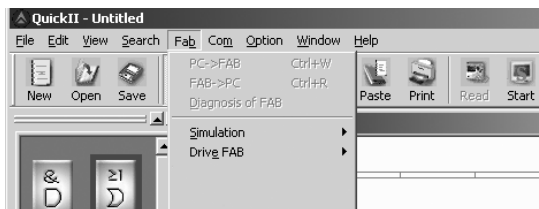

Fig 4.24
- 1) Click FAB2→“PC→FAB2” or “FAB2→PC” on the main menu, as shown in Fig. 4.24, a confirm password frame appears, shown in Fig. 4.25.